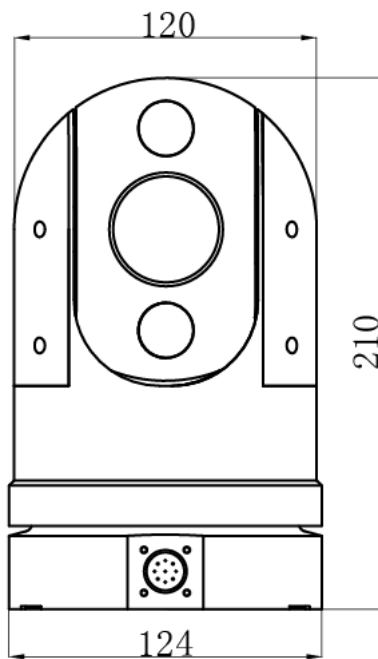

Figure 2
4. **Setup of the Baud Rate of Communication.** As shown in Figure 2, J8 is used to set the protocol of communication and the baud rate used by the dome camera. DIP-6 and DIP-5 of J8(SW2) are used to select the baud rate of communication and 4 different baud rates can be selected in maximum. If the controller adopts non-standard baud rate, you can adjust it to be identical with that of the main machine as per the following table.
1. Dimension as figure 2 shows.